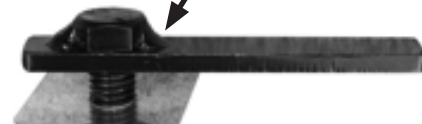

Fig. 4
Select (1) 12mm Bolt Plate and (1) 12mm Plastic Retainer. Partially thread the Retainer onto the Bolt Plate. Insert the Bolt Plate into the hole and rotate it 90-degrees to go across the slot. (Fig. 4)
(1) 12mm x 40mm Bolt Plate